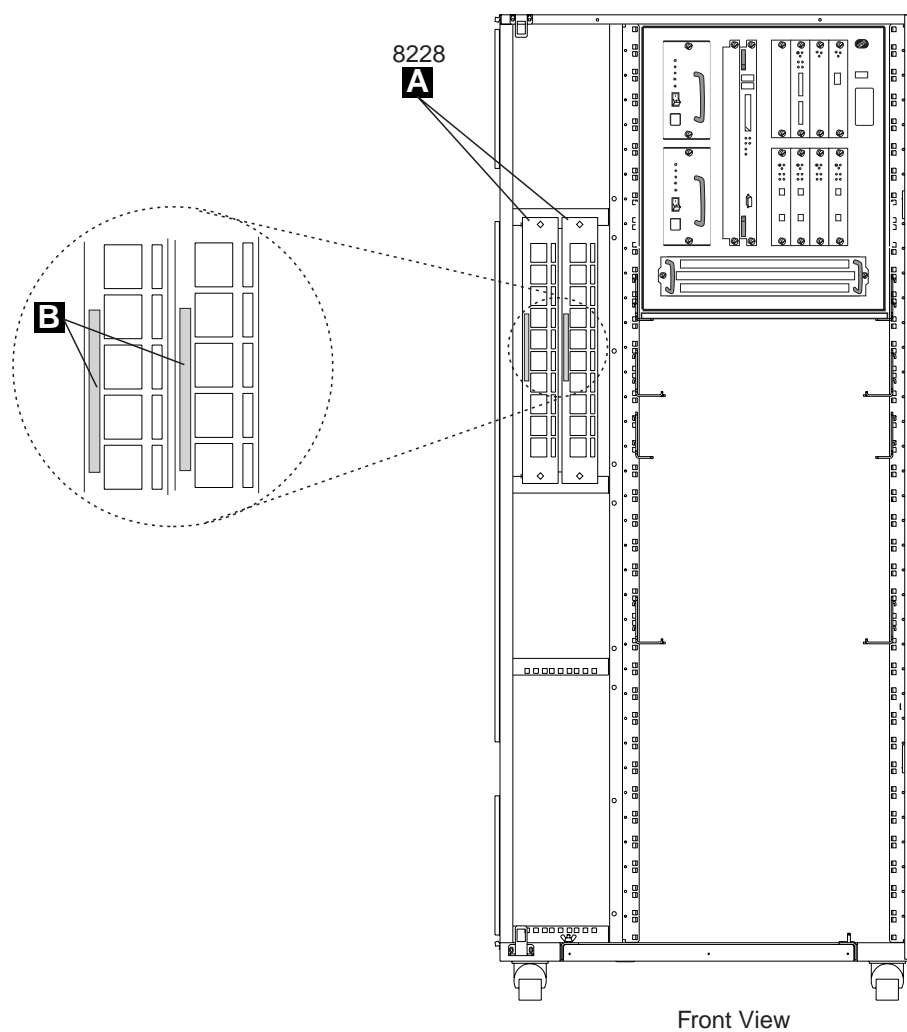

Figure 2. Installing the 8228 (Controller Expansion)
6. ____ Install the 8228s **A** in the controller expansion using two screws (PN 1621232) and two captive nuts (PN 58G5766) see Figure 2 on page 7. Using label **B** (PN 782964), identify the 8228 as MAE Access Unit.